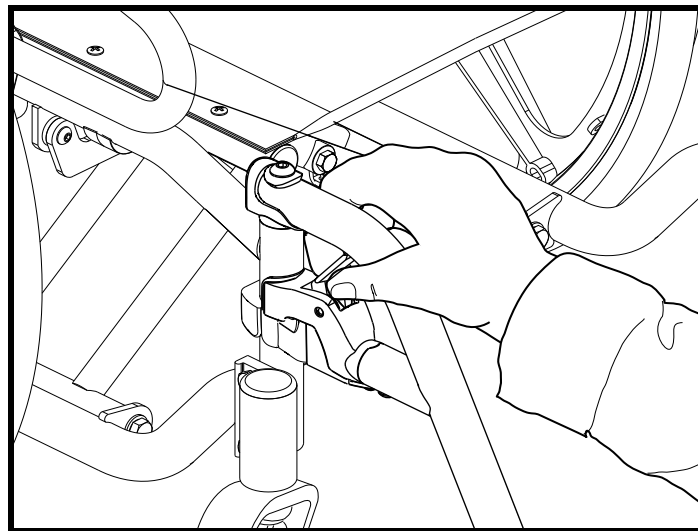

Figure 16. SFR Release
1. Push the release lever back. See figure 16.